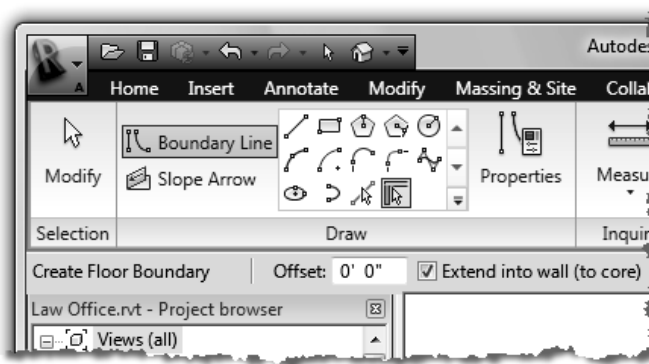

Figure 7-3.2 Floor tool; ribbon and options bar settings
7. Make sure the *Ribbon* and *Options Bar* match the settings shown in Figure 7-3.2.